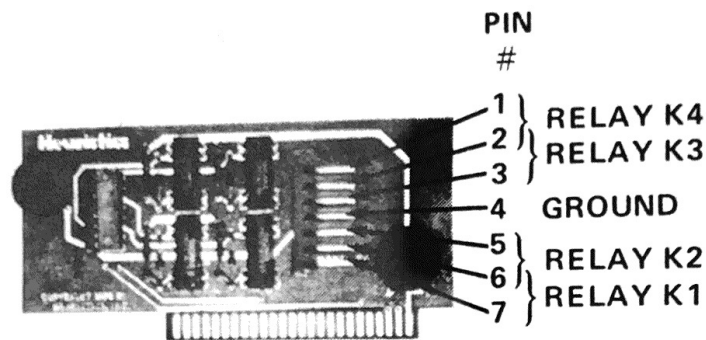

FIGURE 1
- Make connections to supplied female connector and connect to card. (See Figure 1 and Table 1 for required information.)